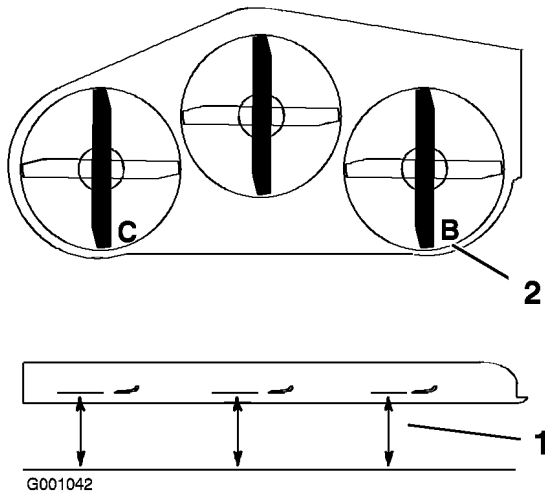

Figure 71
1. Position the right blade front-to-rear (Figure 71).
2. Measure the right blade at the **B** location, from a level surface to the cutting edge of the blade tip (Figure 71).
4. Position the left blade front-to-rear (Figure 71).
5. Measure the left blade at the **C** location (Figure 71), from a level surface to the cutting edge of the blade tip .